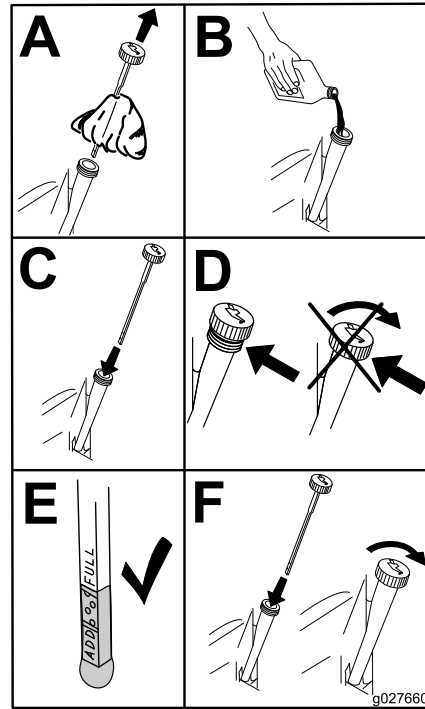

Figure 41
4. Slowly pour approximately 80% of the specified oil into the filler tube and slowly add the additional oil to bring it to the **Full** mark (Figure 41).